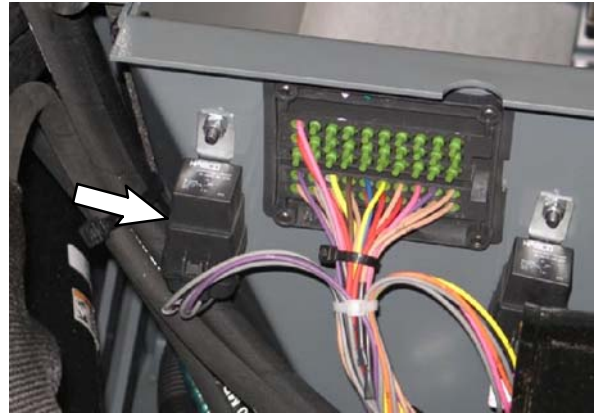

FIG. 3
- Gas / LPG / Diesel Machines Only:** Look for a relay located next to the fuse box. Refer to Fig. 3.